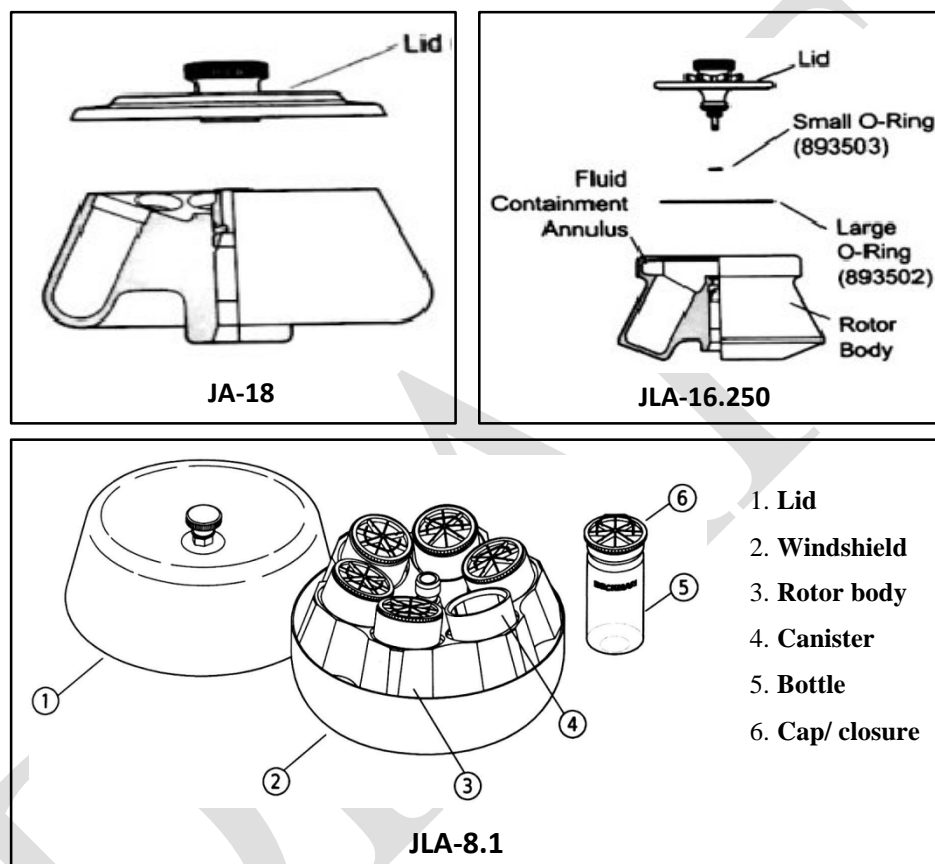

Fig.1 Rotors available in lab
3.1 Assembly drawing for different rotors (fig.1).